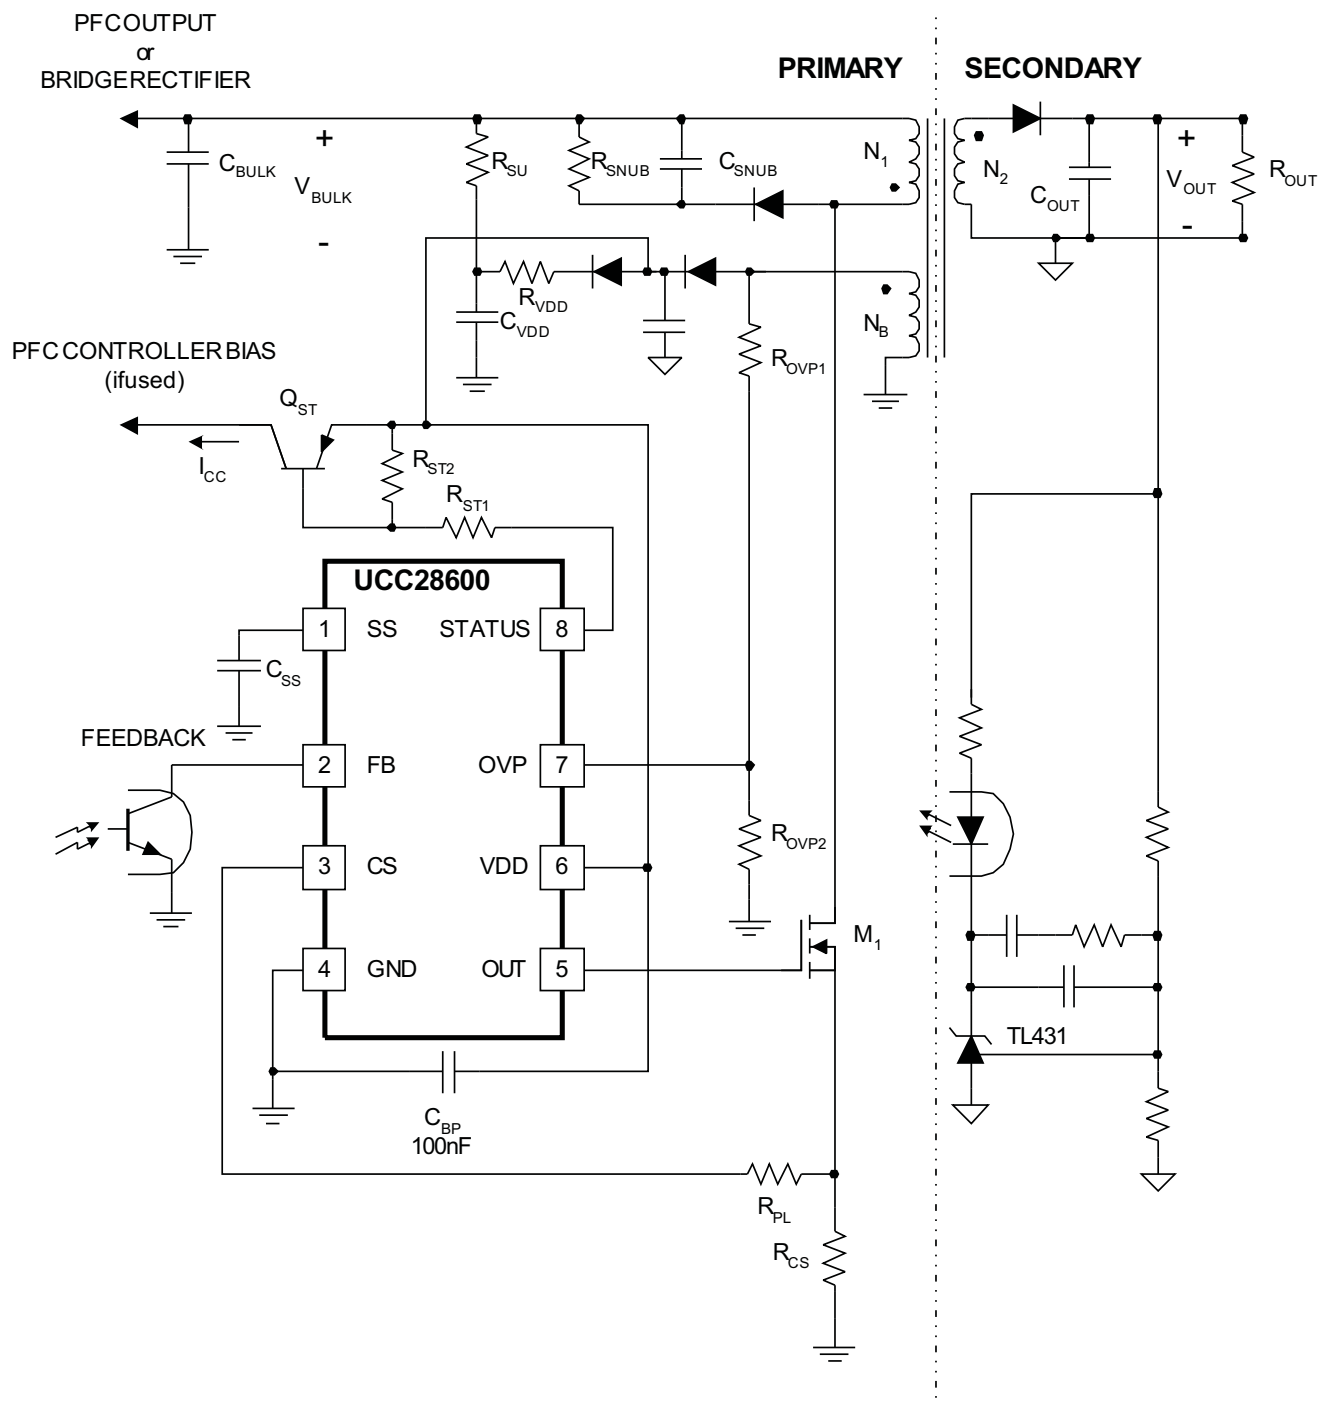

Figure 1. Pin Termination Schematic
(1) Refer to Figure 1 for all reference designators in the Terminal Components Table.
(2) Refer to the Electrical Characteristics Table for constant parameters.
(3) Refer to the UCC28600-Q1 Design Calculator (TI Literature Number SLVC104) or laboratory measurements for currents, voltages and times in the operational circuit.
The UCC28600-Q1 has many protection features that are found only on larger, full featured controllers. Refer to the Block Diagram/Typical Application and Figures 1, 4, 5, 6 and 7 for detailed block descriptions that show how the features are integrated into the normal control functions.